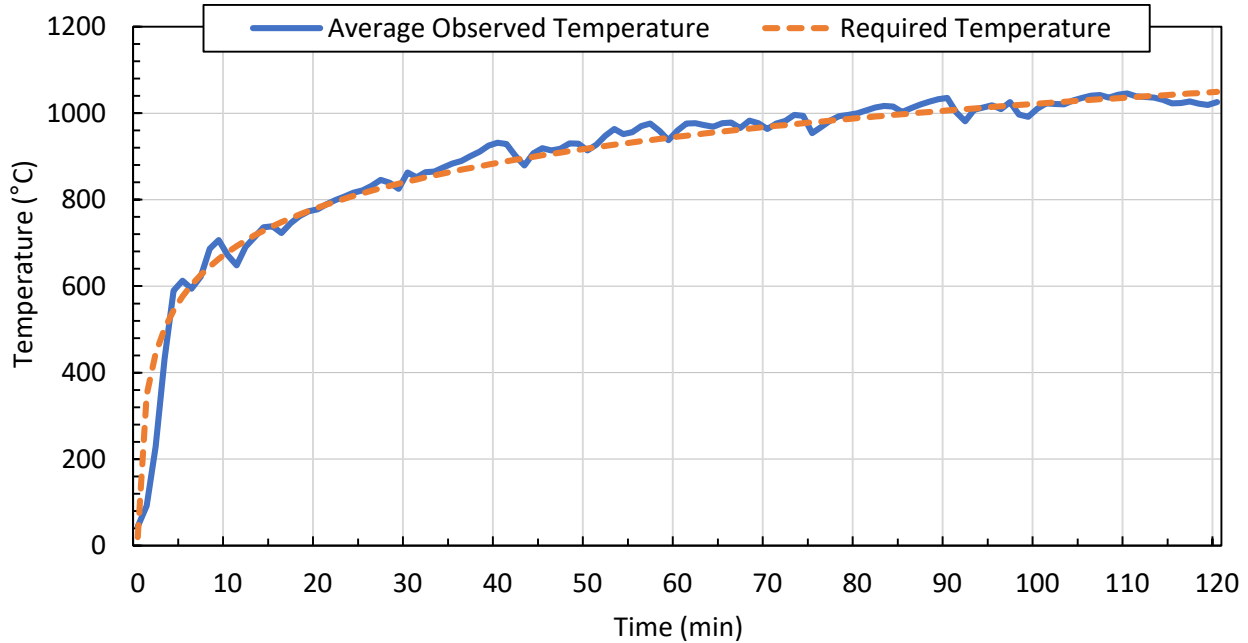

Figure 6: Observed Average and Required Temperature.
- The average time-temperature curve observed and the required time-temperature curve are shown in *Figure 6*.